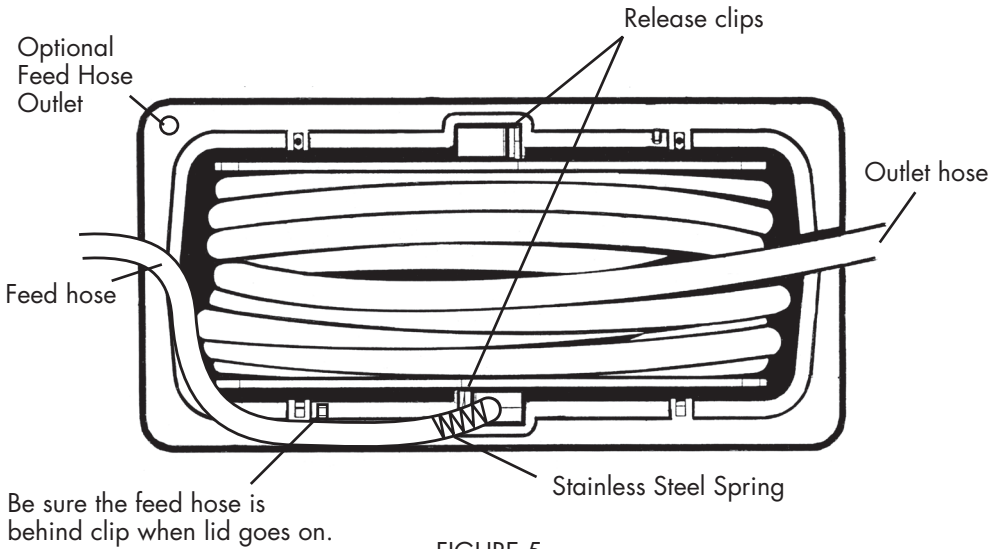

FIGURE.5
- The nylon slides located each side of the spool are retained by a clip, this must be released (use a large screwdriver), then lift the spool out of the casing. (Fig.5-pg5).
- When replacing the lid make sure the feed hose is behind clip. (Fig.5-pg5).
- Be sure to refit stainless steel spring to hose (Fig.5-pg5).